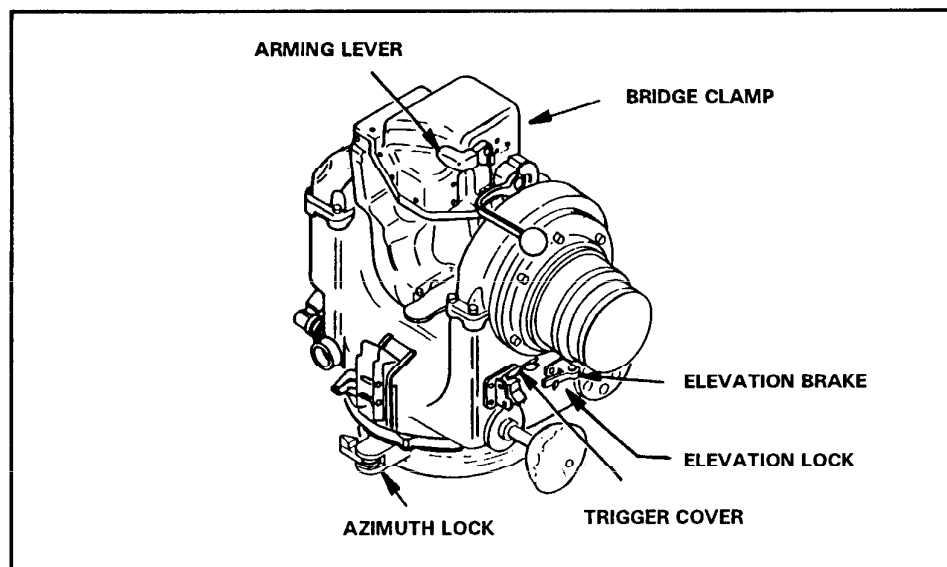

Figure 3-14. Trigger cover, arming lever, elevation lock, and azimuth lock.
(1) If the missile fails to launch after one minute, he closes the trigger cover, lowers the arming lever and locks the elevation lock and the azimuth lock, ensuring that the launch tube is locked in the 8-degree down position (Figure 3-14, page 3-18).